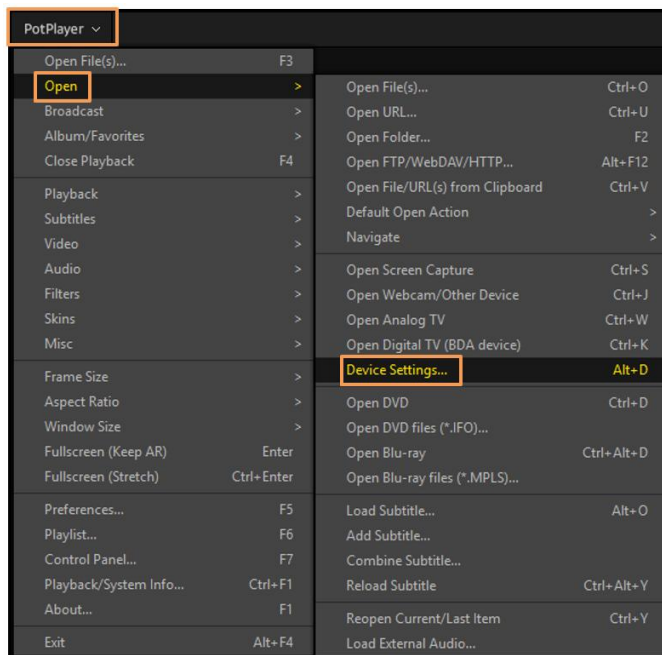

Figure 7.13. Device Settings in PotPlayer 4
2. To configure output resolution, either press the shortcut Alt+D or click **PotPlayer > Open > Device Settings...**, as shown in Figure 7.13.